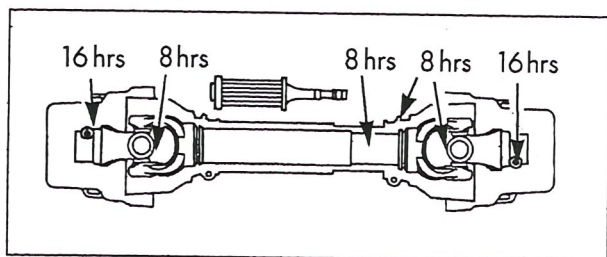

Fig 2
- Dismantle and clean p.t.o. sliding surfaces and re-grease. Grease universal joints. (Fig 2)
- Grease p.t.o inner tube and push pins (Fig 2)